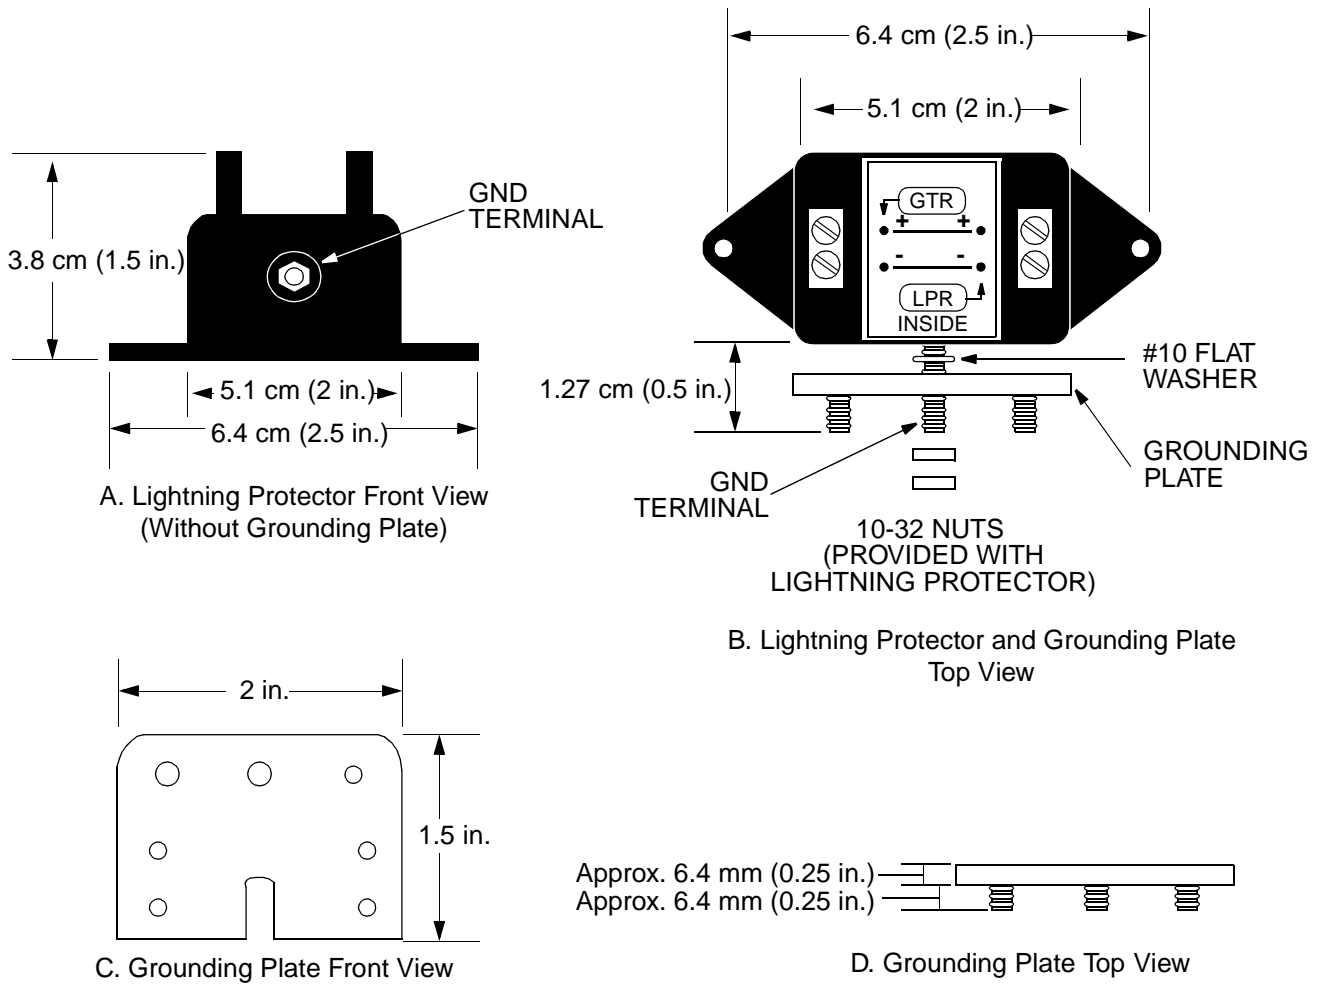

Figure 7. GTR Lightning Protector and Grounding Plate
1. Using Figure 7, install the flat washer onto the GND stud, and mount the lightning protector grounding plate onto the GND stud.
20. Using Figure 7, secure the lug connectors to the “LPR +” and “-” side of the lightning protector, following the color code saved previously (if not using Symmetricom cable), or if using Symmetricom cable: + is red, - is black, and ground is white.
1. Using Figure 7, install the flat washer onto the GND stud, and mount the inside lightning protector grounding plate onto the GND stud.
20. Refer to Figure 7, and connect a 4.115 mm (6 AWG) (or larger) wire from the GND terminal on the side of the inside lightning protector to the building ground (primary protection ground) in the building.
1. Using Figure 7, install the flat washer onto the GND stud, and mount the outside lightning protector grounding plate onto the GND stud.
6. Using Figure 7, connect the PWR+ and PWR- leads to the “LPR +” and “-” side of the outside lightning protector, following the color code saved previously (if not using Symmetricom cable), or use the Symmetricom cable colors.
8. Using Figure 7, secure the lug connectors to the “GTR +” and “-” side of the outside lightning protector and GND terminals, following the color code saved previously (if not using Symmetricom cable), or if using Symmetricom cable: + is red, - is black, and ground is white.